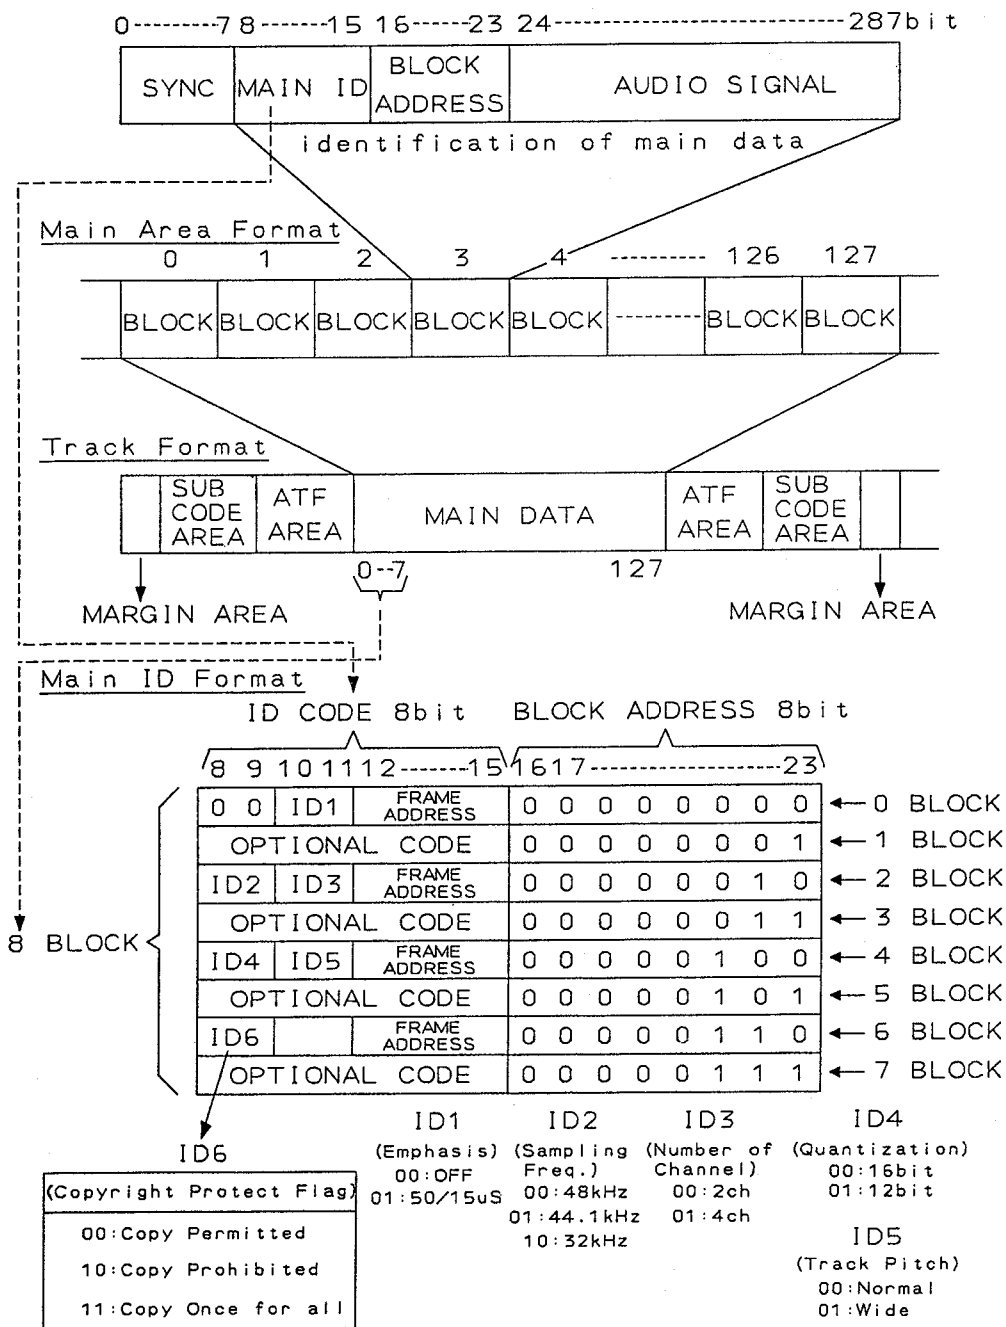

Fig. 2 DAT Recording Format
The determination of whether or not copy can be accomplished using SCMS is performed by the 2-bit copy prohibit code recorded on the digital audio tape and the copy prohibit bit and category code defined by the digital I/O interface. The copy prohibit code within the DAT format uses the two bits of ID6 of MAIN ID. In the past, the two choices of "copy permitted" (00) and "copy prohibited" (10) were defined. The choice of "special copy" (11) has been newly added, and digital copy from tapes recorded with this code can be accomplished for one generation only (see Fig. 2).